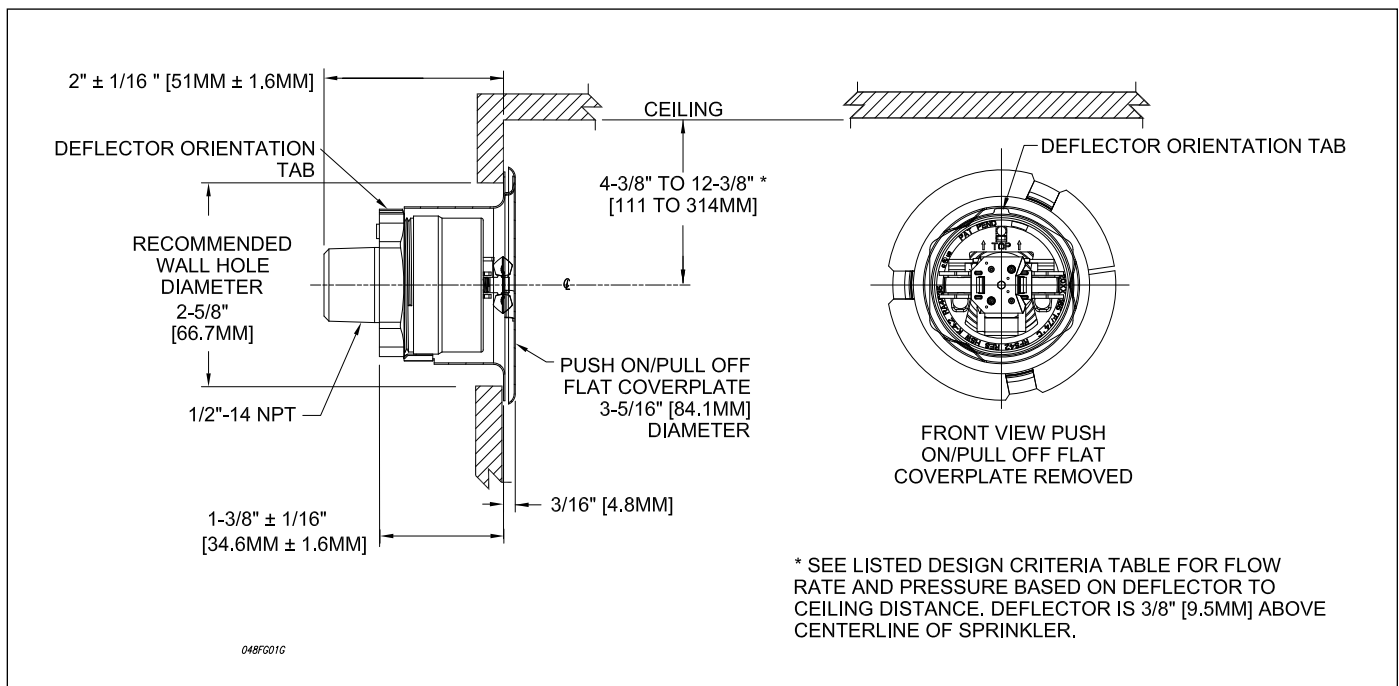

Fig. 1
Do not remove the factory installed plastic protective cap since it is sized to fit inside the G6 wrench. Note that the sprinkler can only mate when the sprinkler's deflector orientation tab (Fig. 1) is aligned with wrench's key-way. The G6 wrench is provided with bubble level pad and TOP marking, to allow the proper orientation of the horizontal sidewall deflector. Final leveling can be done after leak proof joint is obtained with a minimum to maximum torque of 8 to 18 ft-lbs (11 to 24 N·m). Leave the protective cap on to protect the sprinkler while the wall is plastered, wallpapered or painted. The protective cap must be removed and the listed cover plate installed prior to the sprinkler system being placed in service. A 2⁵/₈" (67 mm) diameter hole must be cut in the wall for the sprinkler assembly to extend through.
4. The sprinkler fitting shall be installed so that the rear of the sprinkler is 2¹/₁₆" +/- 1¹/₁₆" from the finished surface of the wall. Verify wall assembly dimensions prior to installation to ensure that the cover plate attaches to the sprinkler and seats against the finished wall surface (Fig. 1).